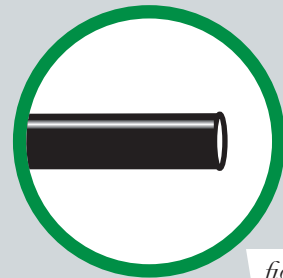

fig. 27
When cutting air lines, use a sharp knife or a hose cutter and make clean, square cuts (Fig. 27). Do not use scissors or wire cutters because these tools may deform the air line, causing it to leak around fittings. Do not cut the lines at an angle.
- a. Check the air line connection by deflating the spring and removing the line by pulling the collar against the fitting and pulling firmly on the air line. Trim 1" off the end of the air line. Be sure the cut is clean and square (see Fig. 27). Reinsert the air line into the push-to-connect fitting.